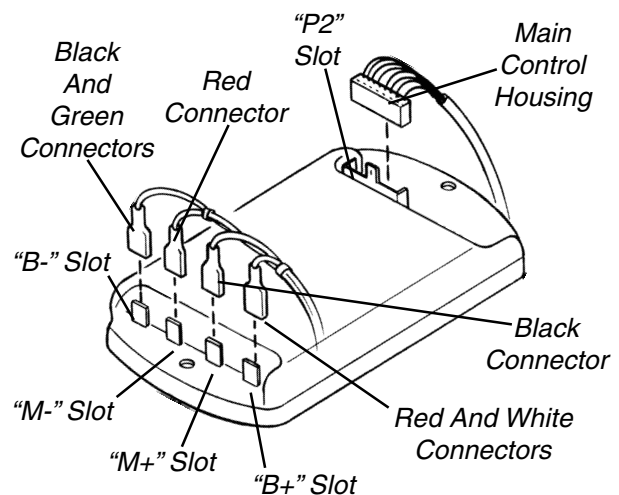

FIGURE 1 - DISCONNECTING/CONNECTING CONTROLLER WIRES
Disconnecting/Connecting Controller Wires (FIGURE 1)
4. Disconnect the following from the controller (FIGURE 1):
1. Connect the following (FIGURE 1):